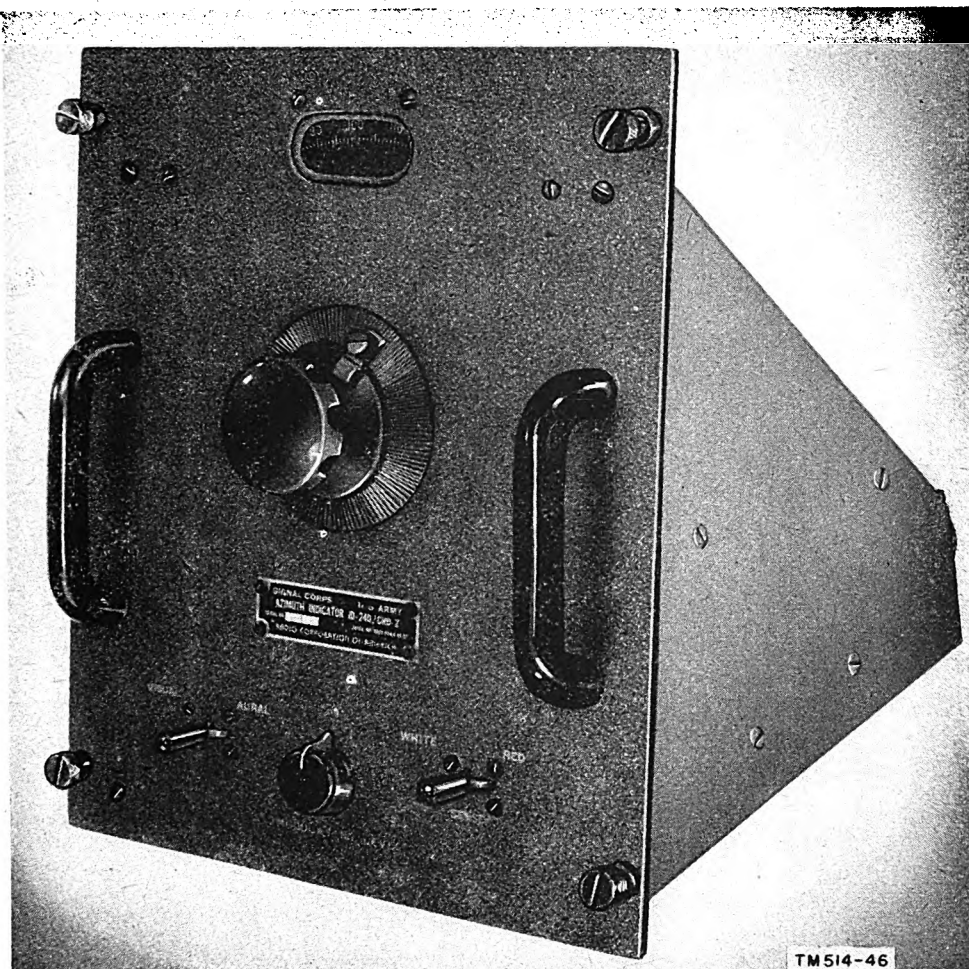

Figure 14. Azimuth Indicator ID-240/CRD-2.
d. Azimuth Indicator ID-240/CRD-2 (fig. 14) is an aural-null indicator which consists of a metal chassis assembly, a control panel, a two-tube power supply, and a sine-wave potentiometer. All components are inclosed in a metal cabinet for table mounting. The VISUAL-AURAL and aural-null SENSE switches, two potentiometers, an azimuth dial (coupled to the sine-wave potentiometer), the nameplate, and two carrying handles are mounted on the control panel. The chassis and control panel are held to the cabinet by means of four thumb-screws. Four circular holes in the cabinet provide access to the four cable connectors (2 for 20-conductor cable, 2 for 2-conductor cable)